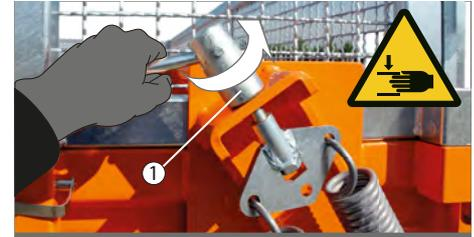

Fig. 125 Releasing lifting springs
- ▶ Open the clamping bolt completely (Fig. 125/1) with the lever. The lever is swivel-mounted.
- ▶ Lead the lifting gear with threaded bolts (Fig. 125/3) out of the holder (Fig. 125/2).